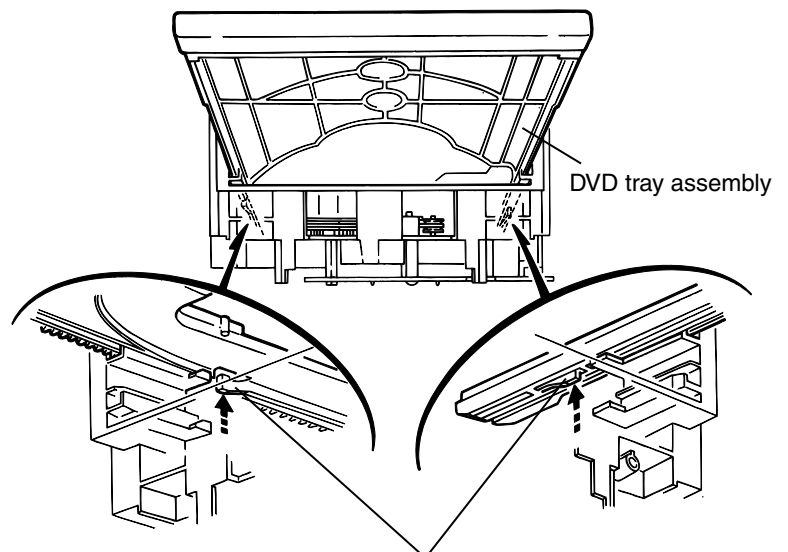

Fig.9
15. At the position where the DVD tray assembly has stoppend, pull out the DVD tray assembly while pressing the two pawls g and g' on the back side of DVD tray assembly (See Fig.9). In this case, it is easy to pull out the assembly when it is pulled out first from the stage DVD tray assembly.